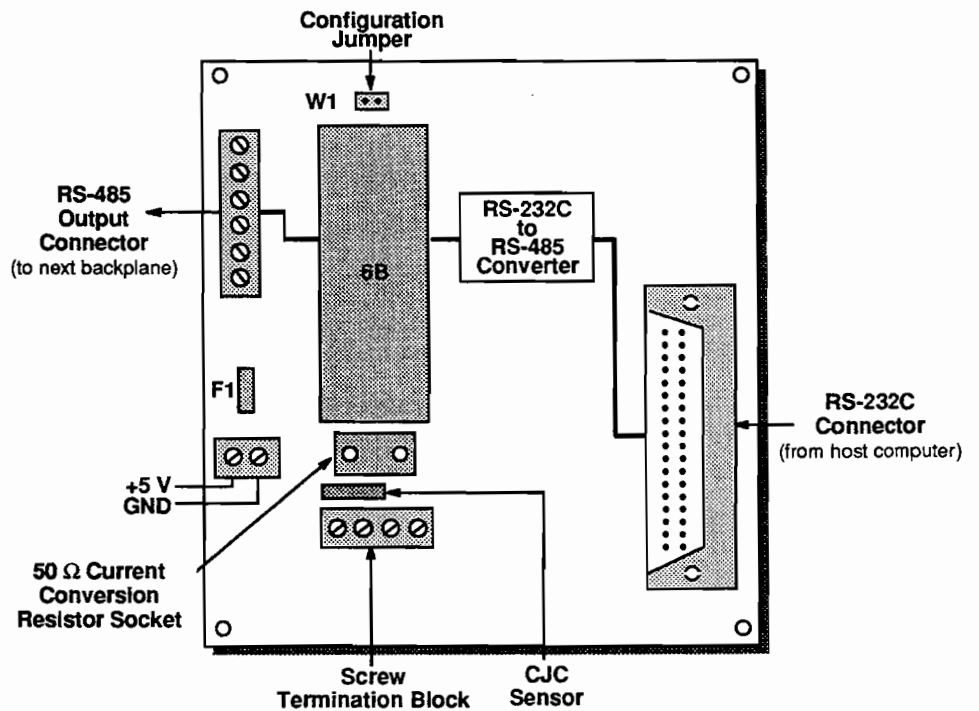

Figure 1-5. 6BP01-2 Backplane
- **6BP01-2 Backplane** - The 6BP01-2 backplane, shown in Figure 1-5, is a single-channel backplane. It has an RS-485 output connector for connecting to the next 6B Series backplane or 6B50 board in a network and an RS-232C connector for connecting to a host computer. It also has an RS-232C-to-RS-485 converter that allows the 6B modules to communicate with the host.